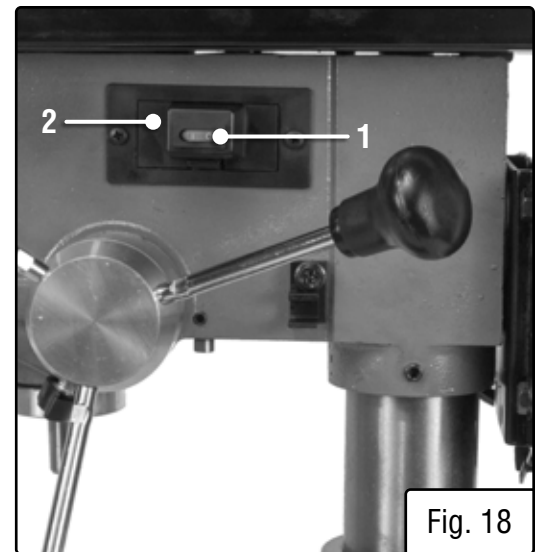

Fig. 18
### LASER LINE ON/OFF SWITCHES (FIG. 18)
The laser switch (Fig. 18 - 1) is located on the left hand side of the drill press.
1. Pull the tab located below the laser switch and lift up the laser switch cover (Fig. 18 - 2).